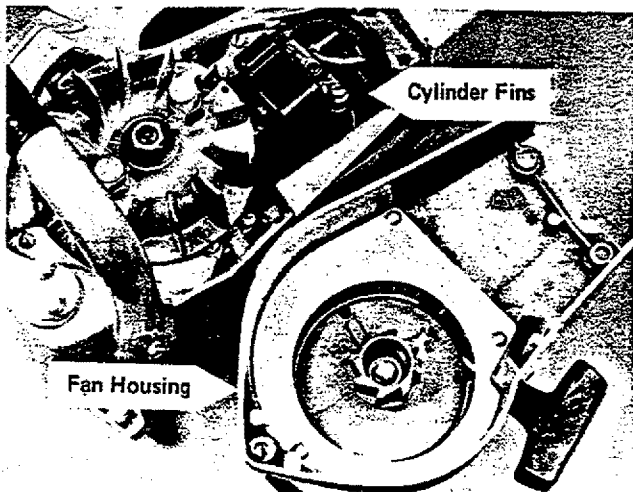
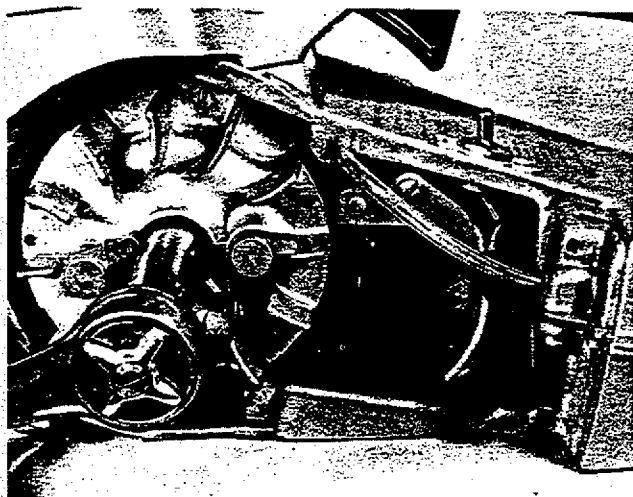

Fig. 10
Fig. 11
Remove the three screws holding the fan housing to the saw. See Figure 10. Clean out any loose sawdust in fan housing. Clean out any chips and sawdust that have accumulated between the cylinder fins. Use compressed air if available. If cooling fins are blocked, the cylinder will run too hot and could adversely effect power and engine life.
3. Remove the fan housing, figure 10, and secure the flywheel from turning. This is best accomplished by wedging a socket wrench or an end wrench between the flywheel nut and the front handlebar. See Figure 11. Clutch removal should not be attempted without first removing the fan housing, as damage to the starter or flywheel could occur.